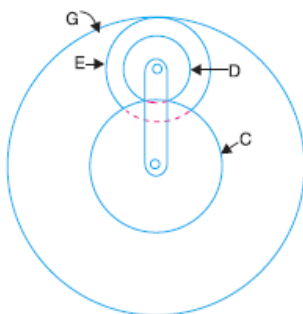

Figure 3.1
- 3A. A cam lifts the follower for 120° through 30 mm followed by a dwell period of 30° and then it descends down in 150° and rest is again dwell, the motion is parabolic. If cam rotates with 150 RPM, calculate maximum velocity and acceleration during descent. (2)
- 3B. Draw the profile of a cam having a knife edge follower having lift of 30 mm. Follower rises in SHM for 150° followed by 60° dwell period. The follower descends for next 100° with constant velocity. Speed of cam shaft is 120 RPM and cam has a least radius of 20mm. (5)
- 3C. In the figure 3.1 gear D and E are compounded and number of teeth on Gear C, D and E are 50, 20 and 35. If the sun gear rotates with 100 RPM and annular wheel G is fixed. Calculate speed of arm and number of teeth on annular assuming the module of every gear as same. (3)